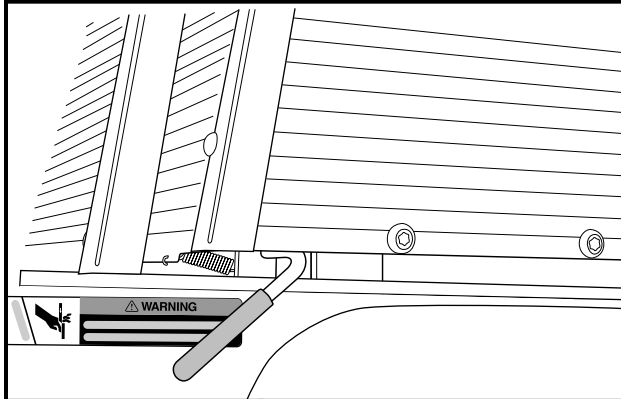
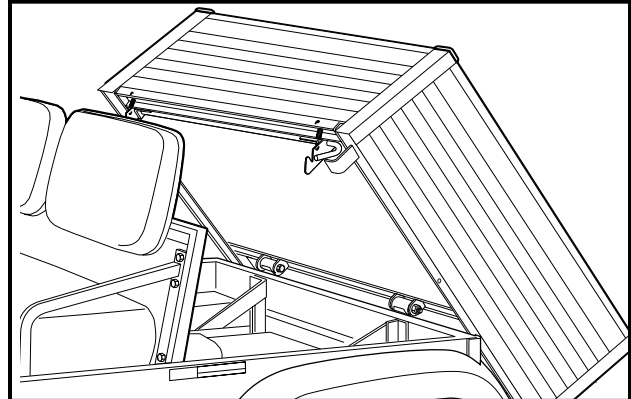

Figure 12 XRT 1200SE Bed Latch
Figure 13 XRT 1200SE Raised Bed
The bed latch (**Figure 12**) releases the bed. To lift the bed, push down on the latch handle while lifting up on the bed. The bed is balanced so as to stay in a raised position automatically (**Figure 13**). To close the bed, lower it gently until the bed latch engages. **DO NOT** drop the bed. See following **WARNING**.
- Turn the fuel shut-off valve to the closed (OFF) position (Figure 12, Page 21).